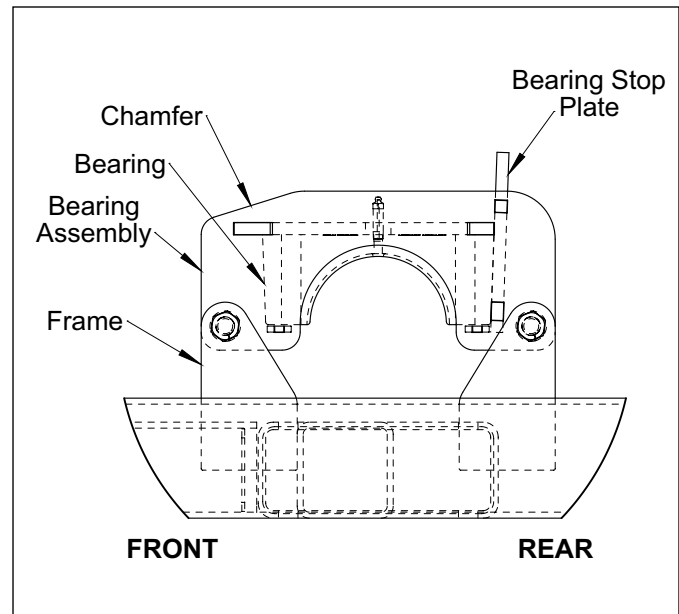

Figure 2-4: Center Bearing Assembly
6. Coat the center Bearing Assembly with grease. Orient the Bearing Assembly so the chamfer end is towards the front of the machine and install it between the Rockshaft Cylinder Arms. Insert 3/4-10 x 5-1/2 Bolts with the head on the left side and secure with Lockwashers and Hex Nuts, which will be on the right side. **See Figure 2-4.**